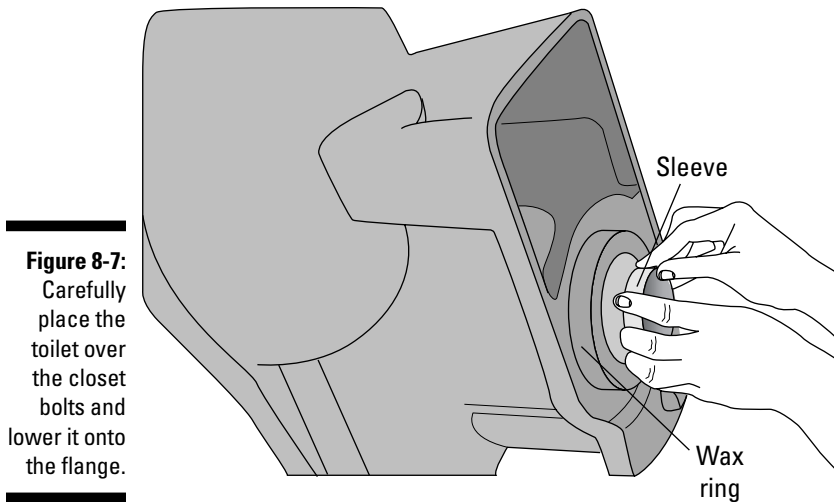

Figure 8-7:
5. Install the new toilet (see Figure 8-7).